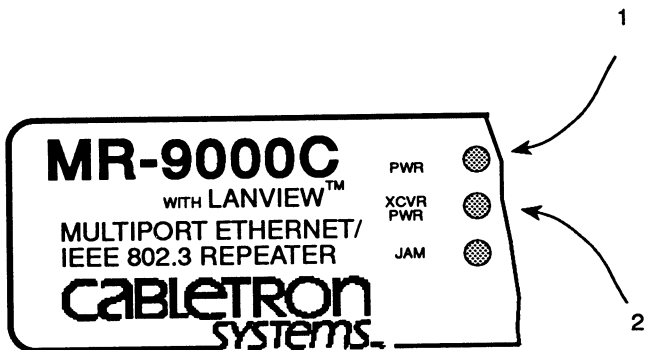

Figure 3-2. Power Indicators
- The **PWR** LED (1, Fig. 3-2) indicates that the repeater is receiving power.
- The **XCVR PWR** LED (2) indicates that the repeater is providing power to the transceiver connected to the repeater's AUI port.